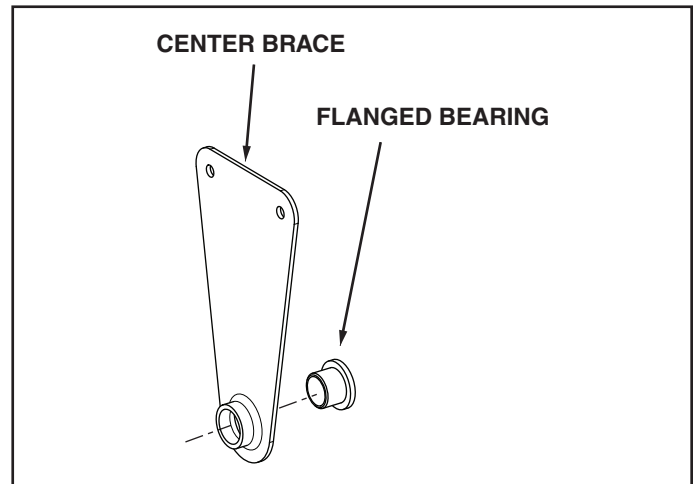

FIGURE 3
4. Press a flanged bearing into both center braces from the flat side of each brace. See figure 3.